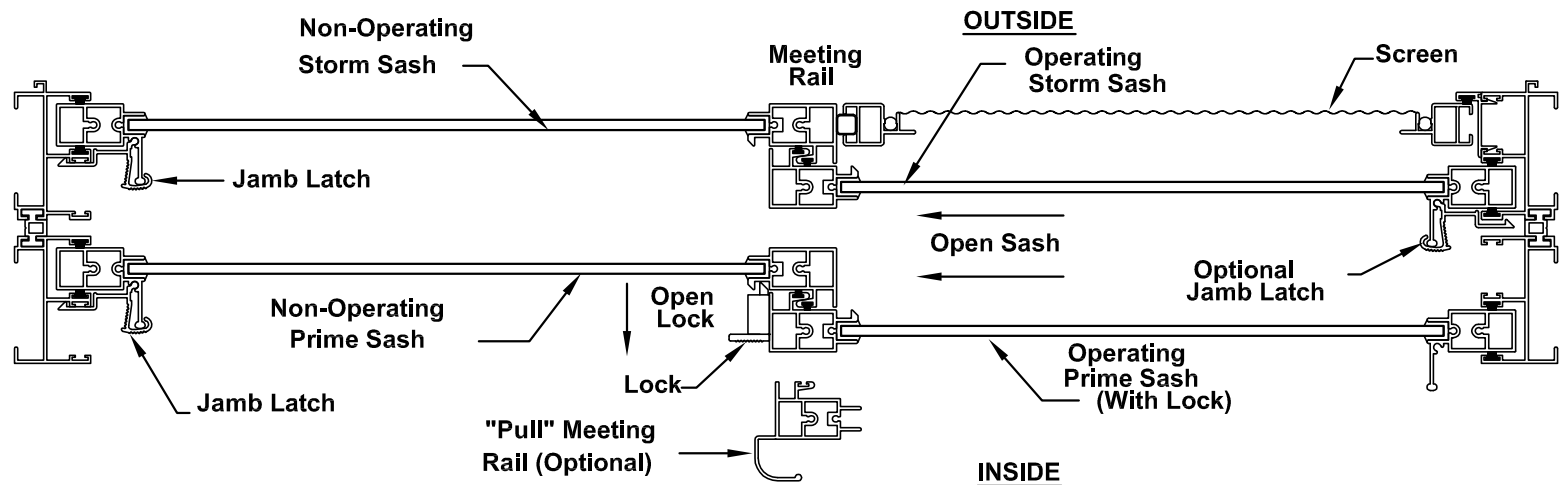

Figure 3B
1. Open the lock by pulling the lock handle to the inside of room. (Figure 3B)